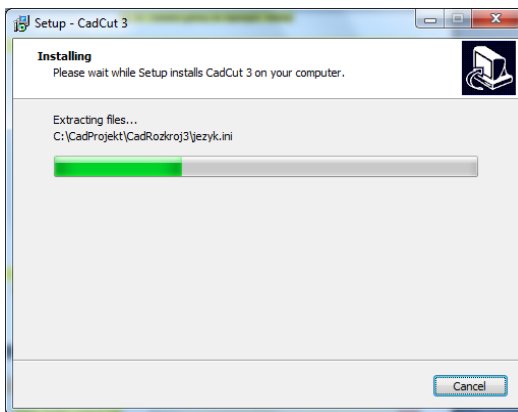

Fig. 15 – installation progress
- During the installation you can see the progress bar (Fig. 15 on the next page).